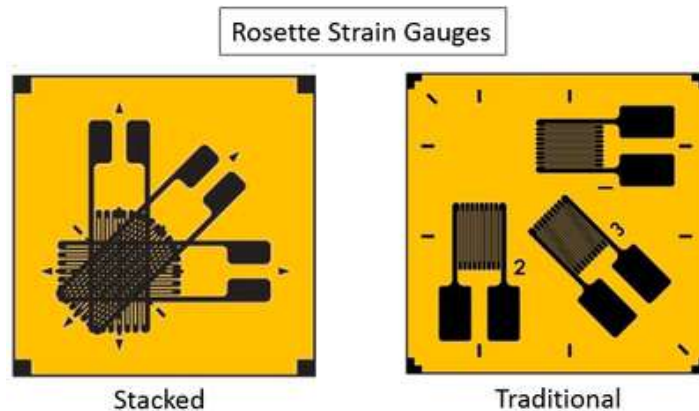

Figure 5: Traditional versus stacked rosette strain gauge configurations.
- Rosette Gauges – Stacked rosette strain gauges, which take up less area by stacking three gauges on top of each other, create more heat than traditional rosette gauges (Figure 5). Do not use a stacked rosette gauge if it is not needed.